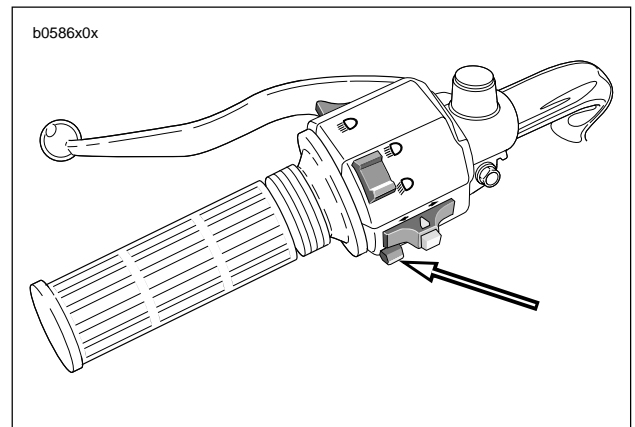

Figure 7-72. Horn Switch
3. See Figure 7-72. Depress horn switch and observe voltmeter reading.